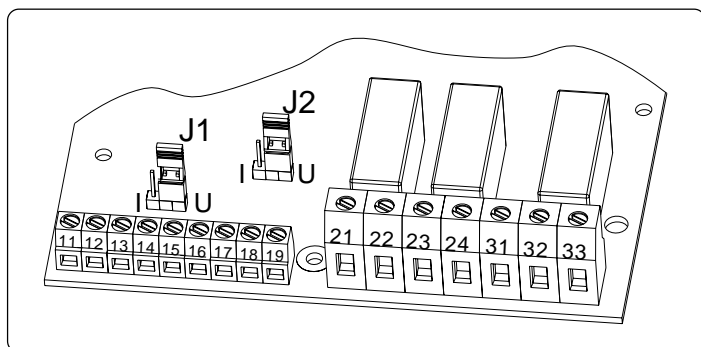

Fig. 20 Selecting voltage or current for analog input.
2. Set Jumper J1 on the PCB control card to voltage (U) or current (I) position (see Fig. 20). Factory setting is voltage (U).